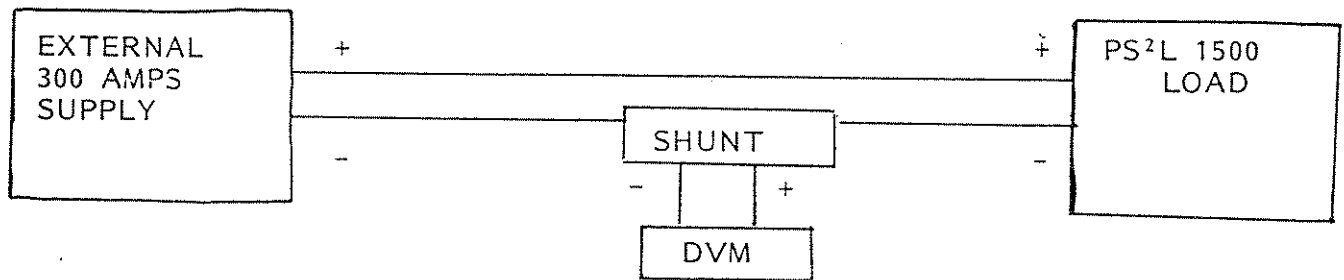

FIGURE 1
- A) Attach the equipment as shown in figure 1.